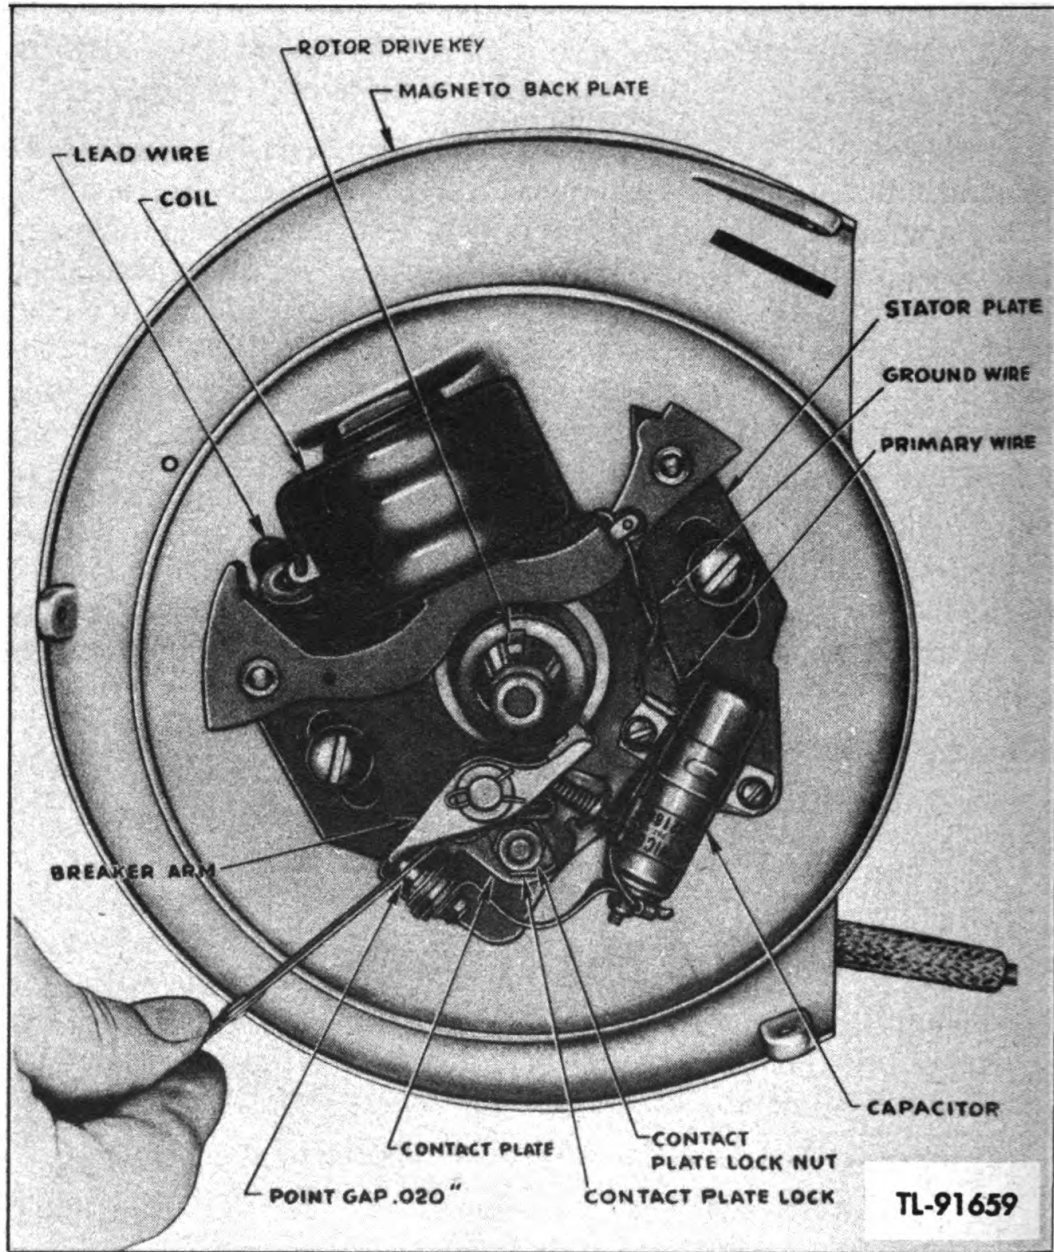

Figure 11. Magneto point adjustment
(g) Check the opening (fig. 11) with feeler gauge. Correct opening is 0.020 inch.
(4) If the points need resetting, bend down the contact plate lock (fig. 11), loosen the locknut which holds the breaker plate in position, and move the plate up or down as necessary to obtain the proper point opening. After the setting is accomplished, be sure to tighten the locknut and bend the ear of the plate lock against the flat of the locknut so it cannot loosen up.
(5) The breaker-plate setting should be made only in the manner prescribed. At no time should the fixed contact on the plate be loosened or the breaker arm bent to provide adjustment.
(6) The moving contact is integral with the breaker arm. In replacing the breaker arm, make certain the breaker-arm bushing is in place. If either one of the contact points needs replacing, change both of them at the same time to insure satisfactory operation.
(7) The breaker-arm bearing is packed with a cam lubricant at the time of assembly and should not require additional lubrication. A small amount of this lubricant is also packed on the breaker-arm cam wiper and wipes off on the cam surface, providing permanent lubrication between these rubbing surfaces.
(8) Uneven or pitted points may be restored to a true even condition by using the point cleaner furnished with the equipment. Be sure to remove all dust particles after servicing the points. If the points are in need of extensive dressing, replace them.
**c. To time magneto.** If, for any reason, the magneto assembly is removed from the engine, follow these directions for proper timing (see fig. 11):
(1) Check the point opening as outlined in subparagraph **b** (3).
(2) Remove the cylinder head baffle, then the spark plug shield and the spark plug.
(3) Turn the crankshaft in direction of engine rotation (to the right) until the piston reaches top dead center.
(4) Insert the small narrow rod furnished with equipment through the spark plug hole in the cylinder head until it touches top of piston.
(5) The lower edge of recess on the rod should then be flush with the top of spark plug hole.
(6) Then withdraw the rod.